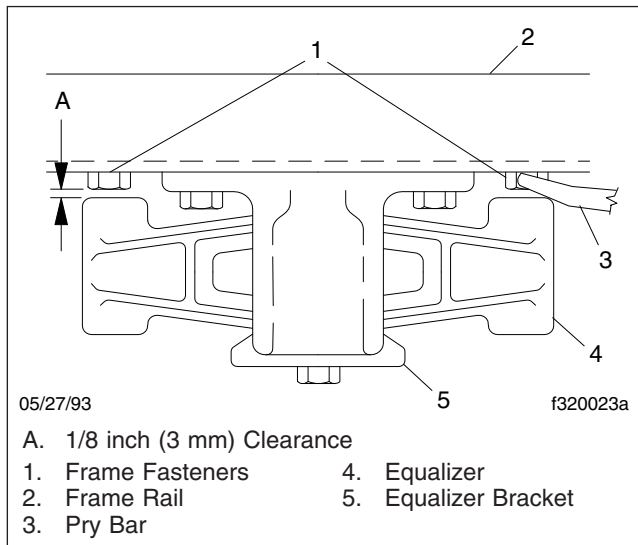

Fig. 3, Top View of the Equalizer
- With the vehicle unloaded, attempt to move the equalizer side to side using a pry bar between the equalizer and frame rail. Apply hand-pressure only. See **Fig. 3**. If clearance between the equalizer assembly and any frame component or fastener is less than 1/8 inch (3 mm), replace the equalizer bushings.